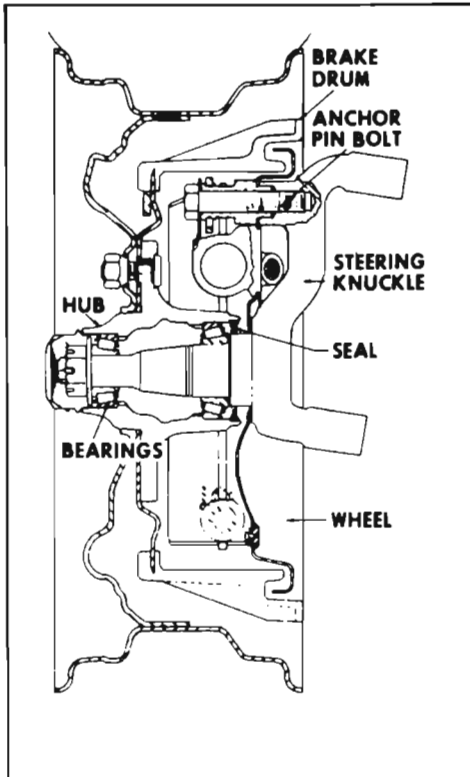

Figure 7-10—Front Wheel Hub and Bearings
2. Remove outer race and outer bearing assembly from hub. Remove oil seal from hub so that inner race and bearing assembly can be removed from hub. See Figure 7-10.